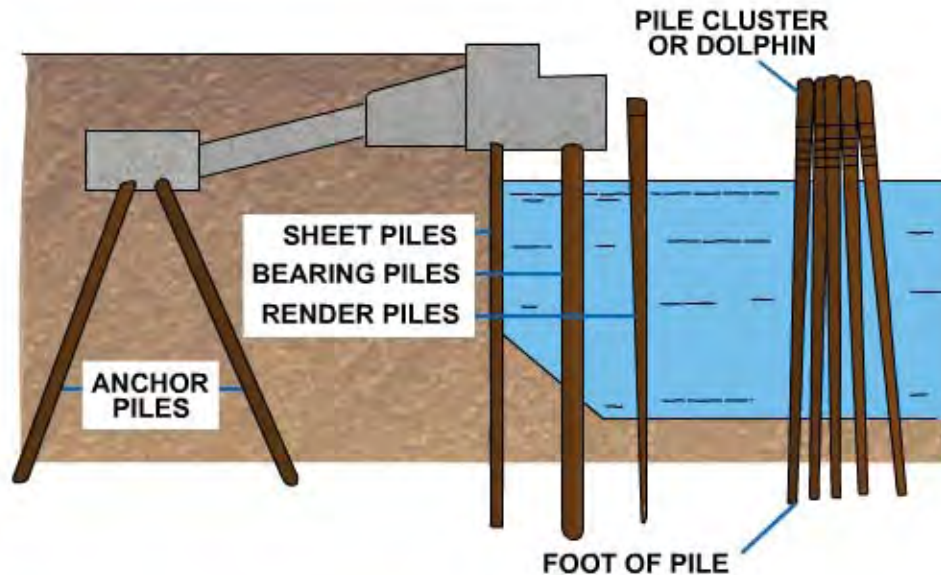

Figure 21-37 – Typical uses of piles driven in a waterfront structure.
- **Anchor Piles** – As shown in *Figure 21-37* anchor piles may be used to anchor bulkheads, retaining walls, and guy wires. They resist tension or uplift loads.
- **Dolphin Piles** – As shown in *Figure 21-37*, dolphin piles are a group of piles driven close together in water and tied together so that the group will withstand lateral forces, such as boats and other floating objects.
- **Fender Piles** – As shown in *Figure 21-37*, fender piles are driven in front of a structure to protect it from damage.
- **Foot of Pile** – As shown earlier in *Figure 21-37*, the term foot of a pile refers to the lower end of a driven pile, which is the smaller end.